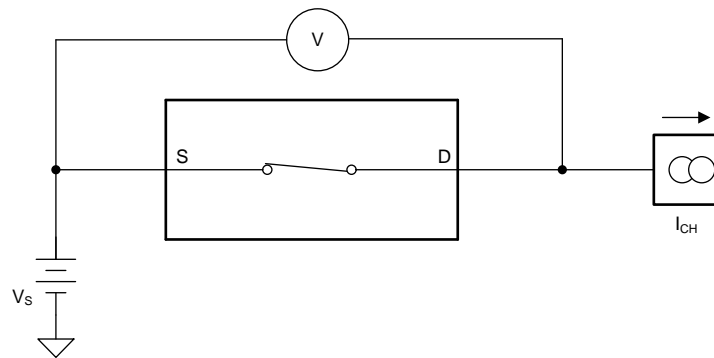

Figure 17. On-Resistance Measurement Setup
The on-resistance of the TMUX6121, TMUX6122, and TMUX6123 is the ohmic resistance across the source (Sx) and drain (D) pins of the device. The on-resistance varies with input voltage and supply voltage. The symbol R_{ON} is used to denote on-resistance. The measurement setup used to measure R_{ON} is shown in Figure 17. Voltage (V) and current (I_{CH}) are measured using this setup, and R_{ON} is computed as shown in Equation 1: